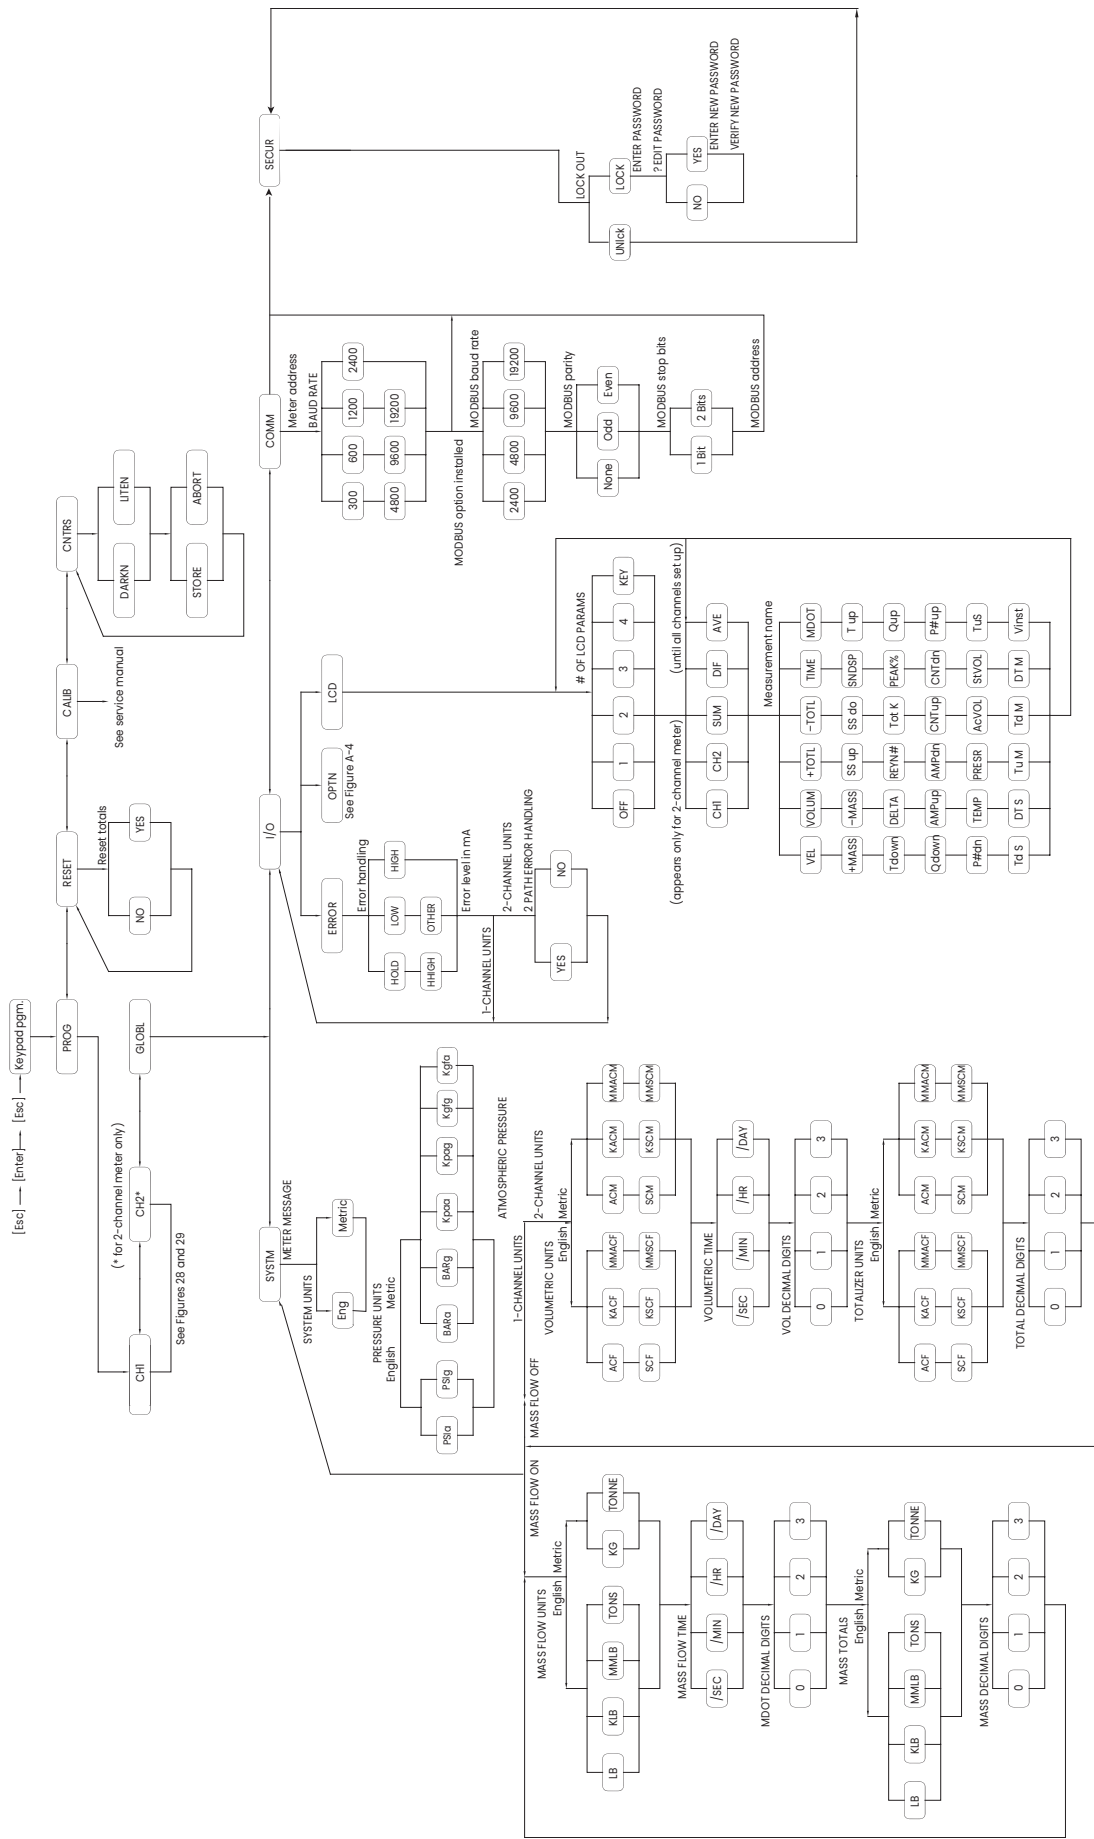

Figure 30: PROG > GLOBL > SYSTM, I/O and COMM menus
- *Figure 30 on page 42, "PROG > GLOBL > SYSTM, I/O & COMM Menus"*